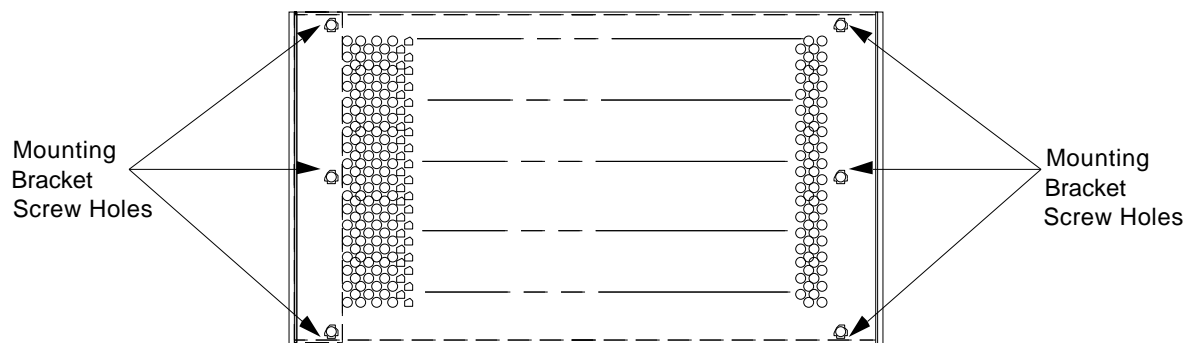

Figure 2-1. Side View of Network 9000 Hub, Showing Location of Bracket Holes.
b. The chassis is shipped with the ears attached to the side of the chassis. Locate the rack-mount "ears" and flat-head Phillips mounting screws (6-32 x 0.5-in, painted black) which attach the ears to the chassis. As shipped, the ears are attached so that the processor and power supply modules would be mounted at the front on the rack. However, the ears can be mounted on the chassis on either side (which allows you to select whether the I/O modules and cables or the processor modules will be in the front of the rack. If you want to rack mount the chassis so that the I/O modules will be at the front, remove the ears from the chassis and mount them on the other side of the chassis. Use a Phillips screw driver to secure the ears to the chassis. Each ear has three holes, which match the mounting bracket screw locations shown in Figure 2-1.
- c. Locate the 4 mounting screws and Tinnerman nuts in the accessories bag. Each ear has a hole in the top and bottom (see Figure 2-1). Partially screw two of the mounting screws into the rack at the bottom of where the chassis is to be mounted. Leave about one-eighth inch protruding, so that the hole at the bottom of the chassis ears will sit on the screw.